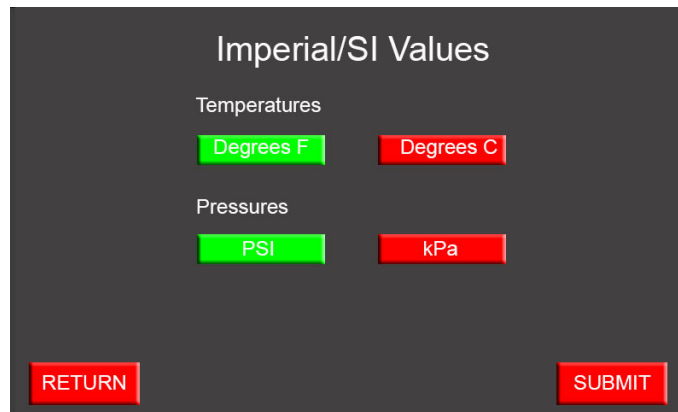

Figure 4-12 Typical Parameter Units screen
The Imperial/SI Values screen, shown in Figure 4-12, allows the operator to select Imperial or *Système Internationale* (SI) (also known as metric) units of measurement. The default units of measure are Imperial units of degrees in Fahrenheit and pounds per square inch (PSI), but the user may elect degrees in Celsius or kilo Pascal (kPa).